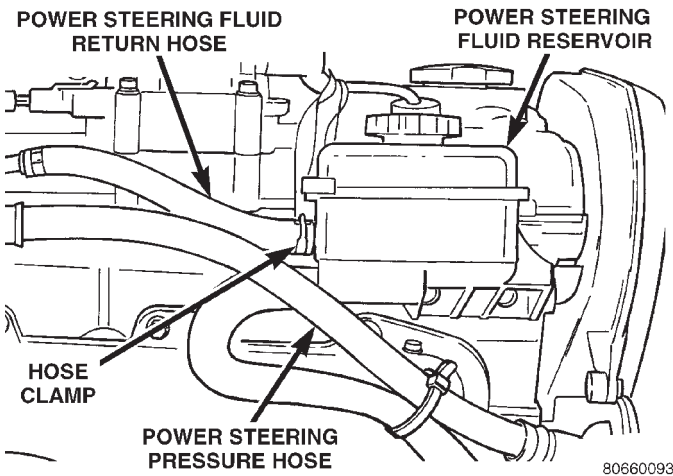
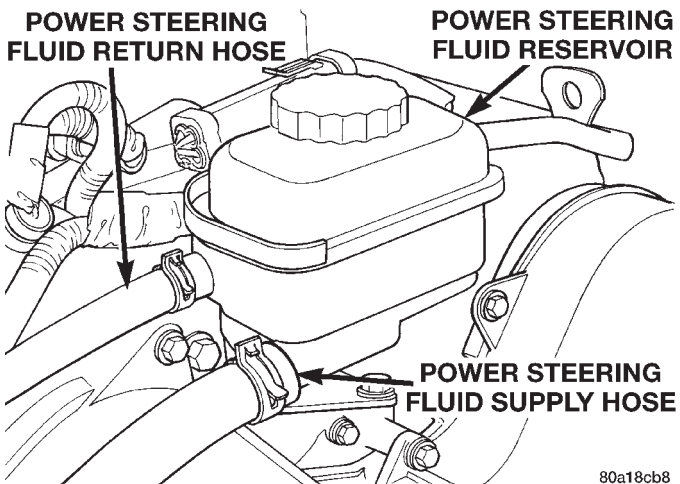

Fig. 17 Power Steering Fluid Return Hose At Reservoir 2.4 Liter
Fig. 18 Power Steering Fluid Return Hose At Reservoir 2.5 Liter
(2) Remove power steering fluid return hose from nipple on power steering fluid reservoir (Fig. 17) and (Fig. 18).
(11) Install power steering return hose on power steering fluid reservoir fitting. Install hose clamp on power steering return hose at power steering fluid reservoir (Fig. 17) and (Fig. 18). **Be sure hose clamp is installed on return hose past upset bead on power steering fluid reservoir.**
(12) Start the engine and let run for a few seconds. Then turn the engine off.
(13) Add fluid if necessary. Repeat the above procedure until the fluid level remains constant after running the engine.
(14) Raise front wheels of vehicle off the ground.
(15) Start the engine. Slowly turn the steering wheel right and left, lightly contacting the wheel stops. Then turn the engine off.
(16) Add power steering fluid if necessary.
(17) Lower the vehicle and turn the steering wheel slowly from lock to lock.
(18) Stop the engine. Check the fluid level and refill as required.
(19) If the fluid is extremely foamy, allow the vehicle to stand a few minutes and repeat the above procedure.
(20) After hose is installed, check for leaks at all hose connections.